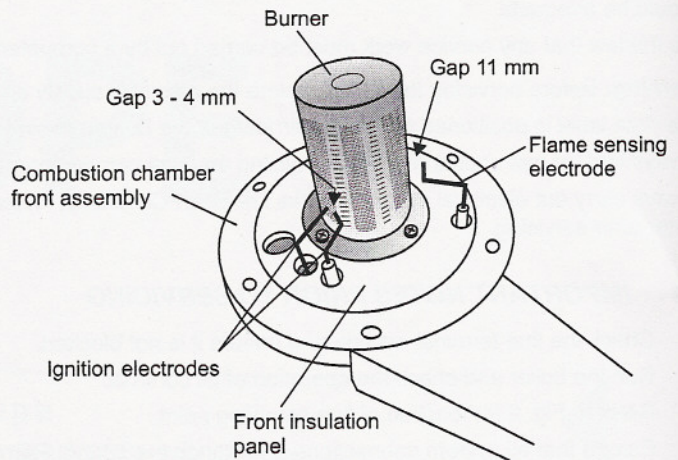

Fig. 26
6. Remove the four screws securing the burner (see Fig. 26) and remove the burner. Clean the burner with a soft brush and check that the flame ports are clear. Blockages may be removed with a stiffer brush. Tap the burner, open end down, to remove any deposits from inside.
9. Check the spark gap, positioning and height of the electrodes. See Fig. 26.
### 8.3 ELECTRODES - See Fig. 26
### 8.4 MAIN BURNER - Fig. 26